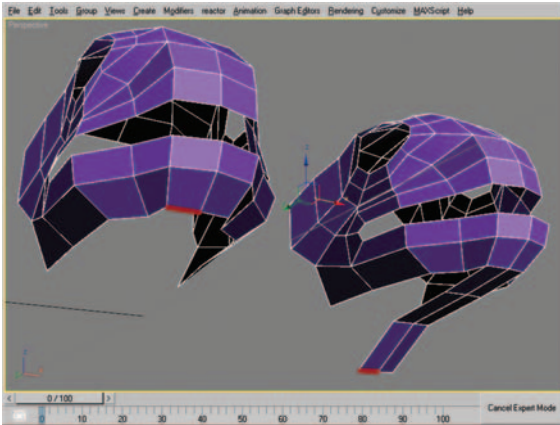

Figure 9.21 Edge selection and resulting new polygons after performing shift-drag.
21. Select the edge shown in Figure 9.21 (left) and shift-drag it three times to create the polygons seen in Figure 9.21 (right).